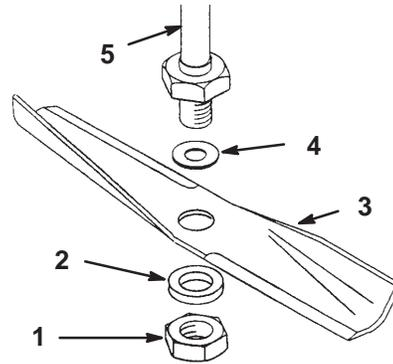

Figure 20
3. Remove the nut, flat washer, blade, and washer (Fig. 20). A block of wood may be wedged between the blade and the mower to lock the blade when you are removing the bolt.